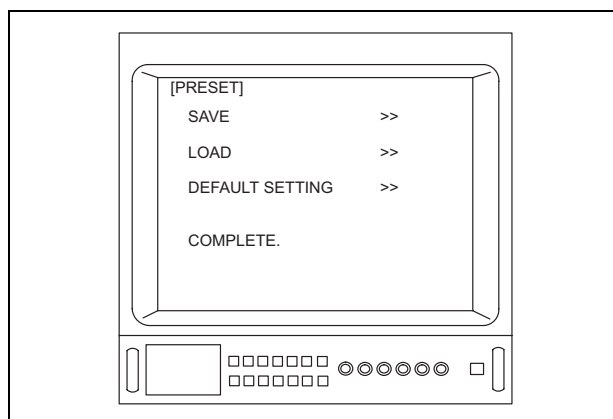

Figure 5.86
7. Depress the menu switch “↵” or the “Enter” key on the keyboard to restore the default settings. The menu shown in Figure 5.86 is displayed.